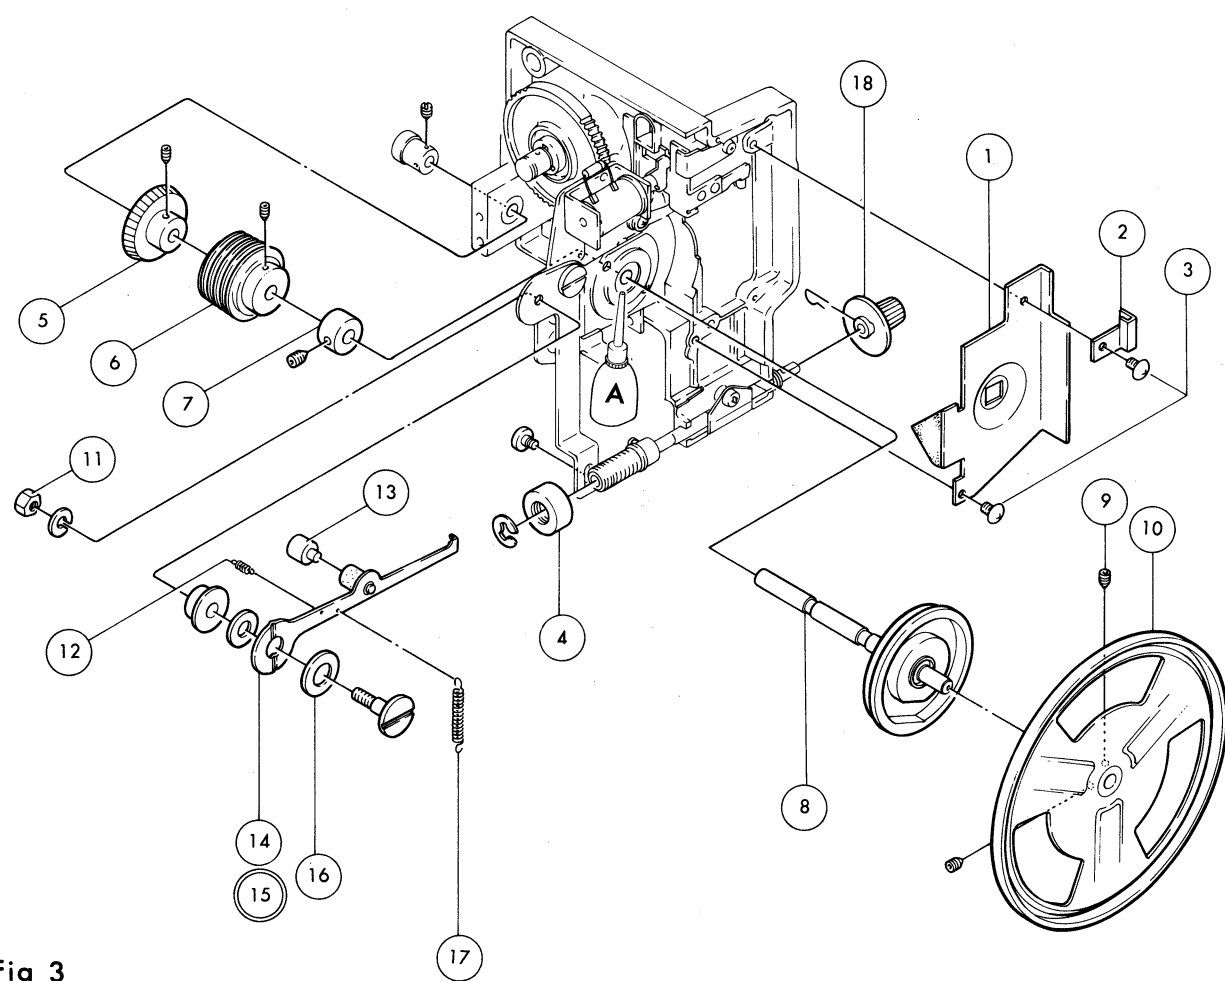

Fig 3
A. Disassembly ... Refer to the Fig.3.
1. Loosen (9)x2 and remove (10).
2. Remove (3)x2 and take off (1) and (2).
3. Remove (12) and (17).
4. Remove (11) and take off ((15)).
5. Loosen the screws of (5)(6)(7) and pull out (8).